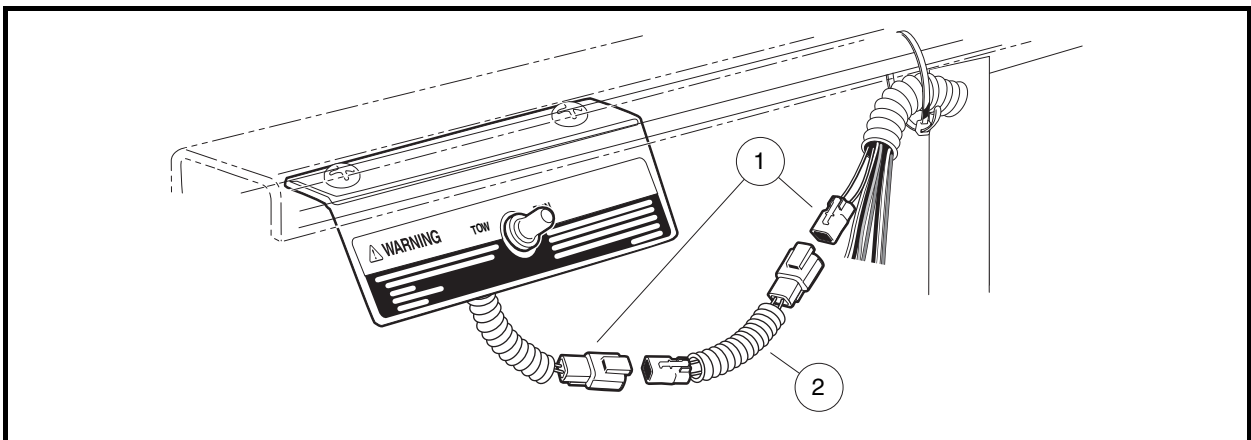

Figure 19-11 Install Main Dropout Harness
1. Disconnect the two-pin connector (1) at the Tow/Run switch (**Figure 19-11, Page 19-13**).
2. Connect the main dropout harness (2) between each end of the two-pin connector.